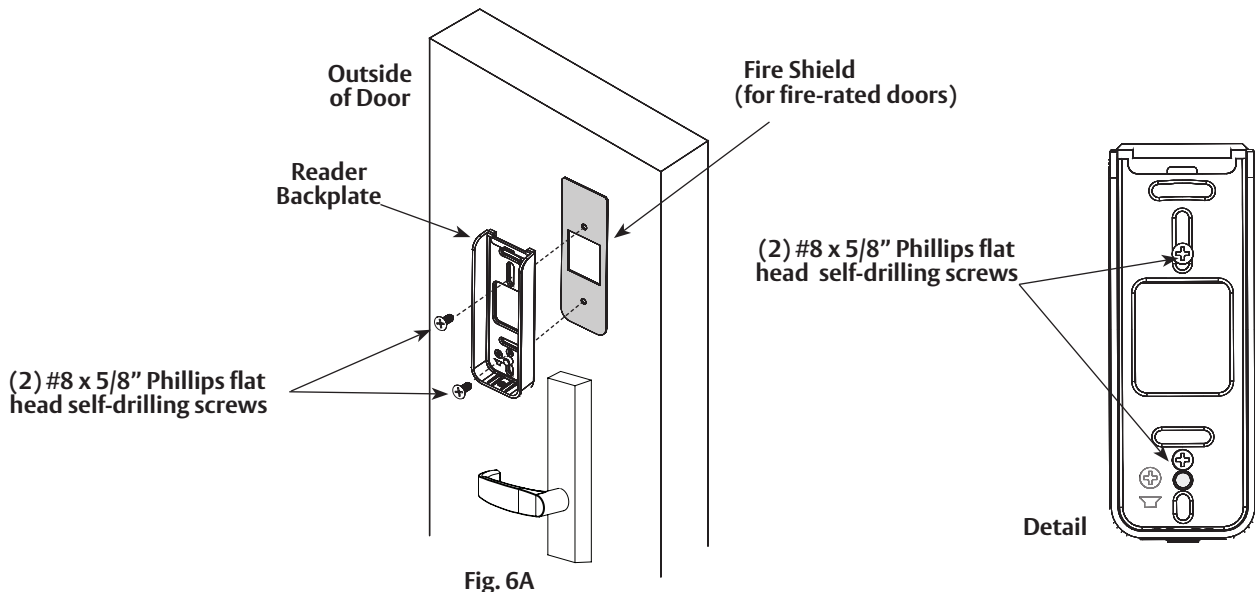

Fig. 6A
2. For exterior doors, install reader backplate using two (2) #8-18 x 5/8" Phillips flat head self-drilling screws (Fig. 6A).
3. *For non-fire rated interior doors, no fire shield is required; simply install backplate using two (2) #8-18 x 5/8" Phillips flat head self-drilling screws.